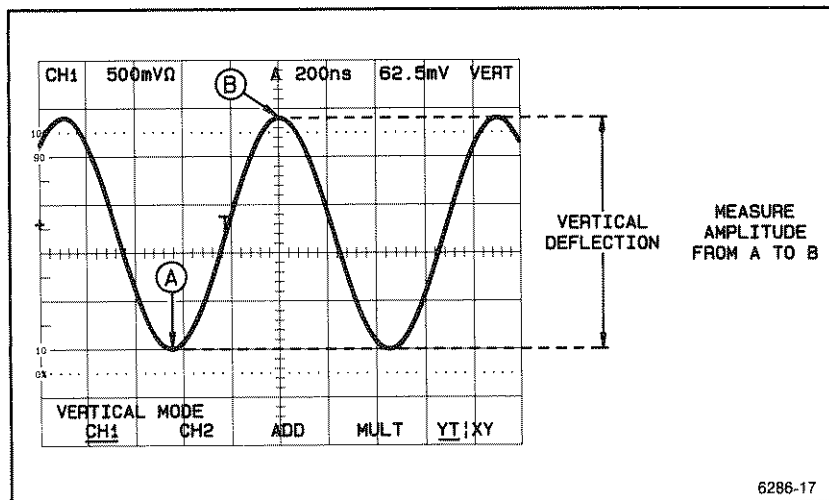

Figure 3-1. Sine wave peak-to-peak voltage.
2. Vertically position the waveform so that its negative peaks are aligned with a horizontal graticule line. See Figure 3-1.
Example calculation for the waveform pictured in Figure 3-1: